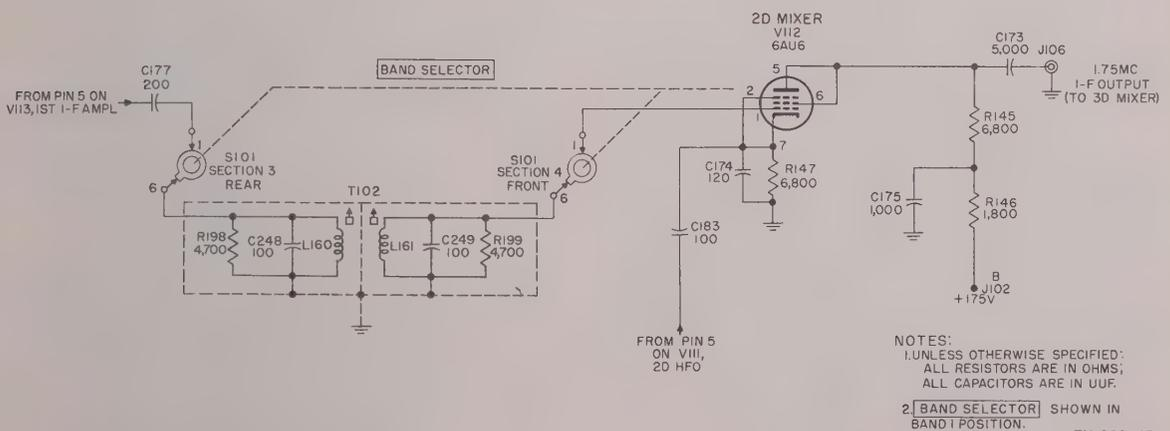

Figure 44. Second mixer.
(figs. 44, 45, and 46)
d. Second Mixer Operation and Output Circuit (fig. 44). The output of the crystal circuit which is chosen is applied to the second mixer cathode and beats with the signal from the first i-f amplifier.
(1) Second mixer operation. One of the two signals injected into the second mixer tube goes to the cathode from the second high frequency oscillator. The other signal, which is applied to the control grid of the second mixer,